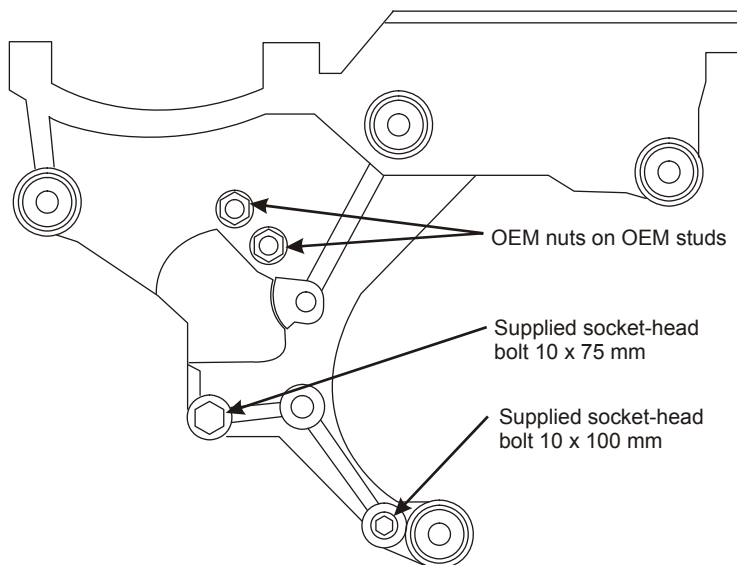

Figure 5.4
- ☐ Apply Loctite and install both OEM 10 mm nuts and one supplied 10 x 100 mm socket head bolt and one supplied 10 x 75 mm socket head bolt to secure the VR bracket to the engine (Figure 5.4).